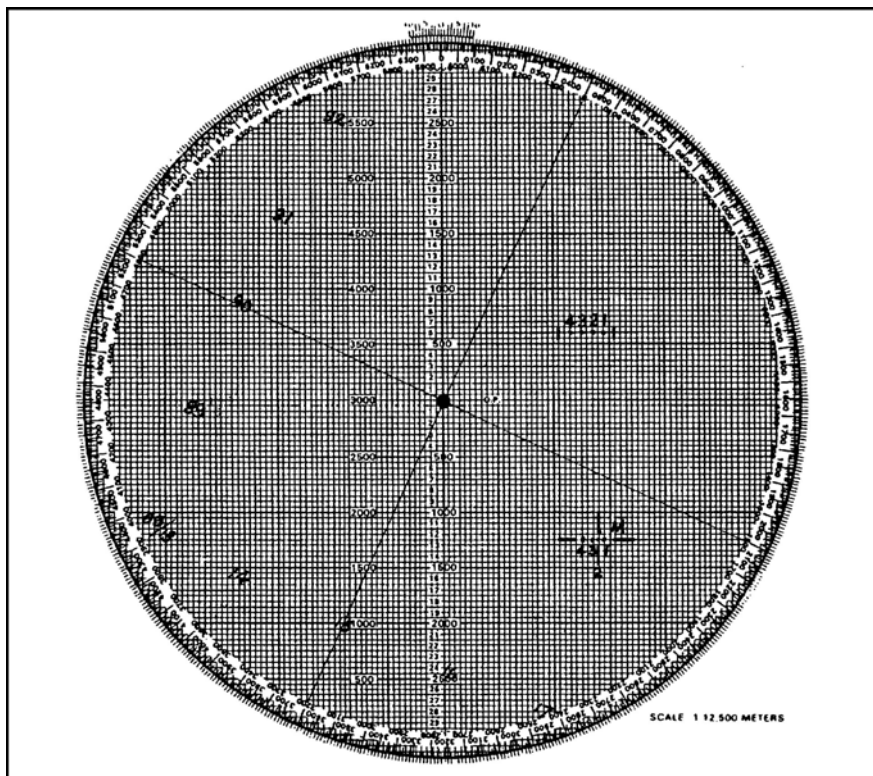

Figure 6. Computed Deflection Data
- (7) At this point, the computer has only to determine the deflection for No. 1, 2, and 3 mortars, complete the subsequent command, and issue it to the mortar section (Figure 6). To do this, the computer aligns the No. 3, 2, and 1 mortars with their start points on the target and reads the deflection for each mortar. During this procedure, the computer should also determine the range for each mortar to its start point. If there is a range difference of 25 meters or more, the elevation for that mortar must reflect the range difference.